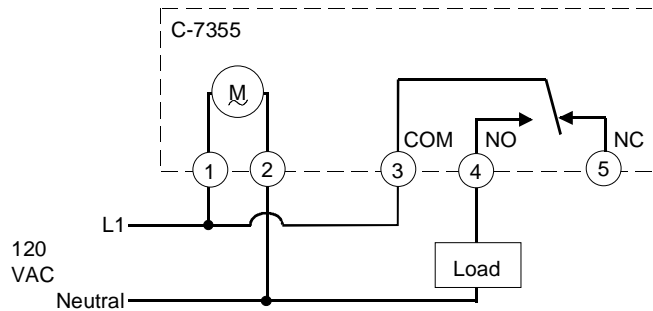

Figure 7: Typical C-7355 Line Voltage Wiring Diagram
1. Wire the time clock according to national and/or local electrical codes. Terminals will accept 10 to 24 AWG copper wire. See Figures 7 and 8.